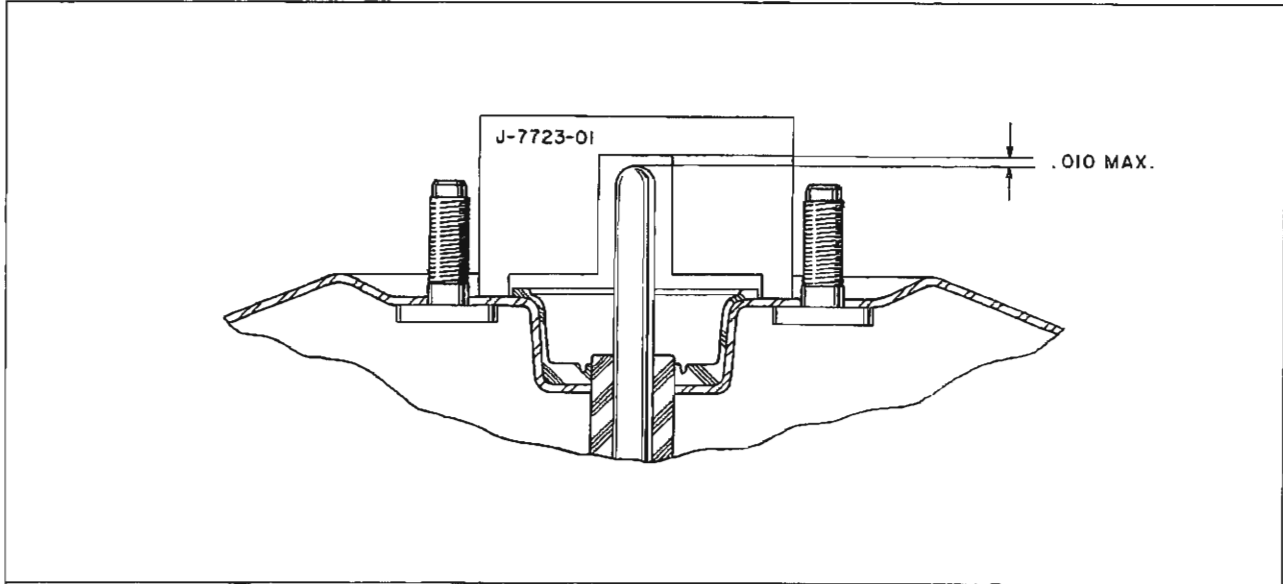

Fig. 5A-13 Checking Master Cylinder Push Rod Adjustment
2. Place gauge J-7723 over piston rod so that it fits between the two studs on front housing (Fig. 5A-13). It should be parallel to studs and resting on surface of housing. Cut-out portion of gauge should never be lower than end of piston rod, and gap between cut-out in gauge and end of piston rod should never be more than 0.010 inch.